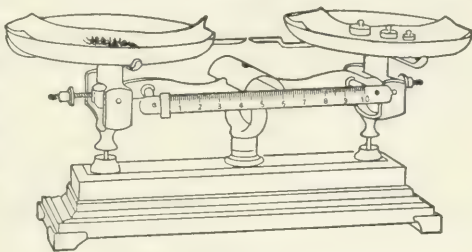

Fig. 8. Platform scales.
**Weighing and counting weights.** In weighing out the materials for an experiment, use the platform or trip scales (Fig. 8). If these are properly handled, they are good to one-tenth of a gram (0.1 g.). Remember that the thing to be weighed is put on the *left-hand* pan and the weights on the *right-hand* pan; also remember to use the slider for small weights.